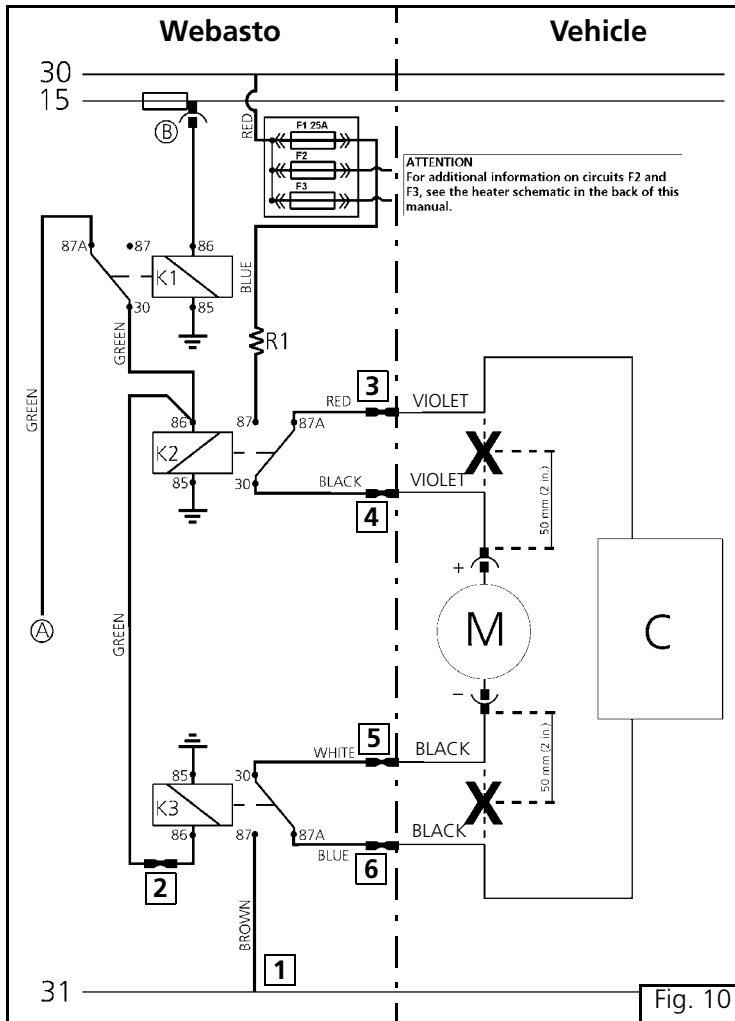

Fig. 10
Wire according to schematic in Figure 10.
- (1) Positive-side blower integration harness
- (2) Ground point (see item 1, Figure 10)
- (3) Relay K-3 of negative-side harness
- (4) HVAC blower motor
Check your wiring! Ensure that all connections have been done in accordance with the wiring diagram shown (Fig. 10). Sensitive electronic controls can be damaged if wired incorrectly!
Legend for Figure 10